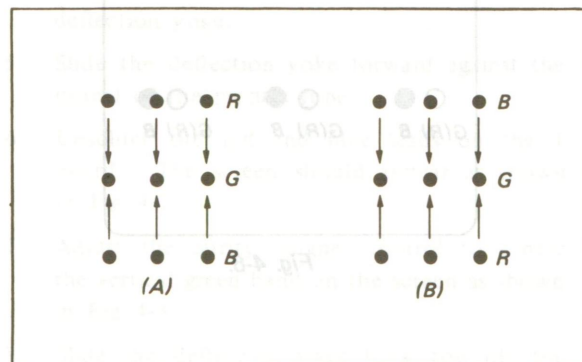
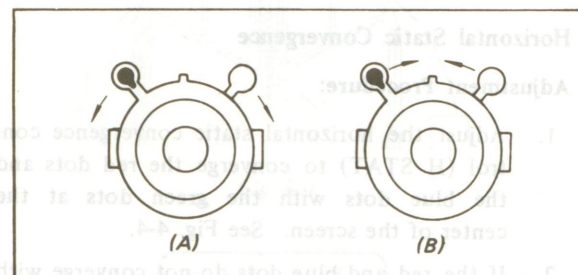

Fig. 4-8.
Fig. 4-9.
1. Spread the two tabs of beam alignment magnet equal amounts in opposite directions to converge red and blue dots with green dots. See Fig. 4-8, Fig. 4-9 and Fig. 4-10.